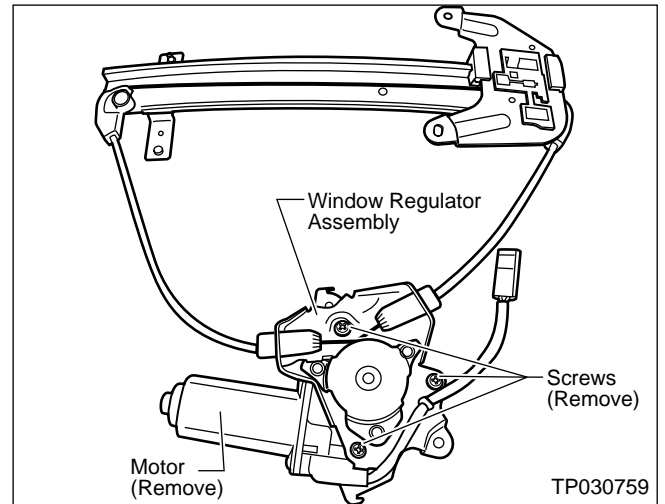

Figure 22
13. Take out three screws and remove the Motor from the Window Regulator Assembly (see Figure 22).